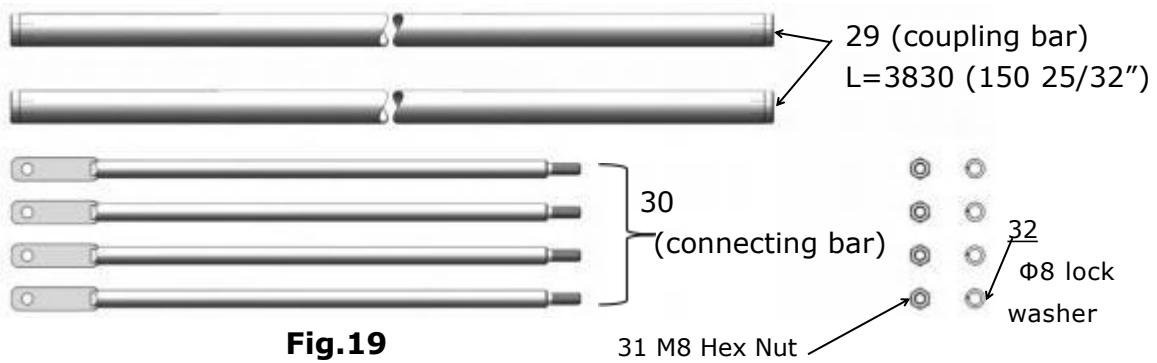

Fig.19
1. One safety device coupling bar assembly include one unit coupling bar and two units connecting bar. All parts see fig 19.